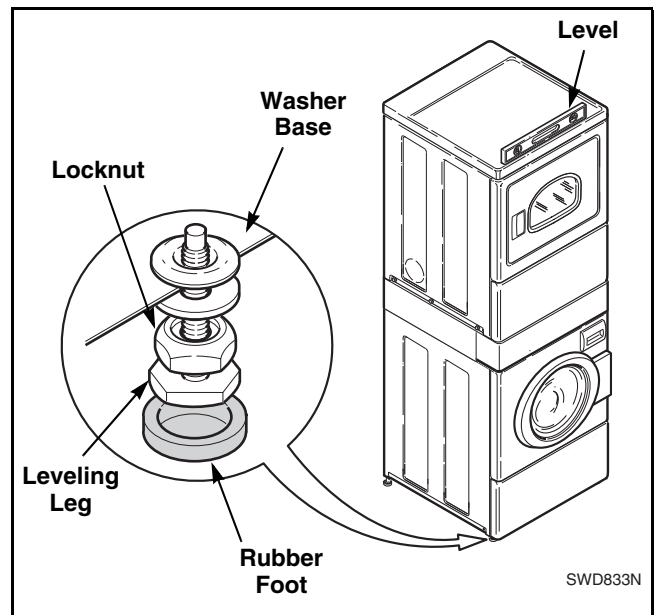

Figure 5
**NOTE:** Level must be on a raised portion of top panel. Refer to *Figure 5*.
- Loosen locknuts and adjust the leveling legs until the unit is level from side to side and front to back (using a level). Make sure unit **does not rock**. Refer to *Figure 5*.
- Place rubber feet on all four leveling legs. Refer to *Figure 5*.